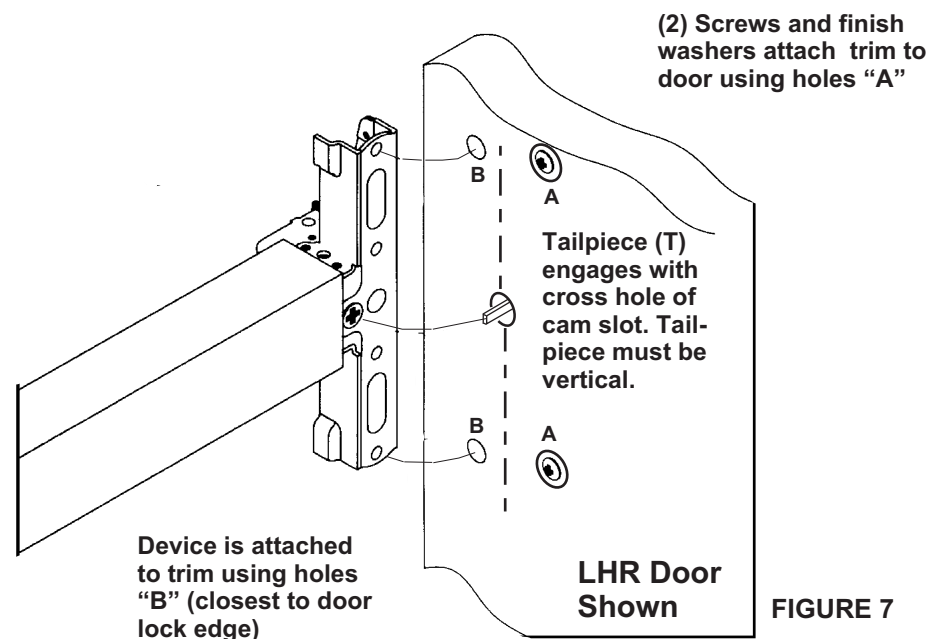

FIGURE 7
Insert the trim into the prep. Install (2) 1/4-20 screws into holes "A" (figure 7) (Holes furthest from the door edge). **Note: Rotate the tailpiece so that it is vertical (figure 7). Failure to follow this step will prevent the package working correctly.** Align the tailpiece of the trim with the device. Hold the device up to the door as the other (2) 1/4-20 screws are inserted through the holes in the device head and through holes "B". Tighten securely. Unlock the trim (per trim instructions) work the lever to insure the latch bolt retracts and extends fully without binding. Continue the install per specific device instructions.